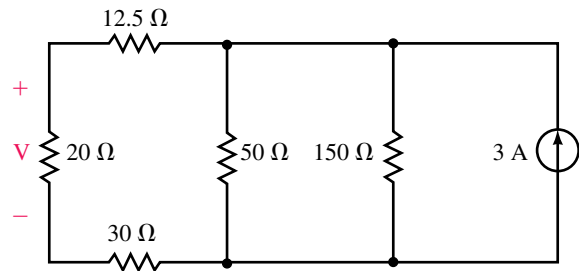

FIGURE 9–110
52. Repeat Problem 51 for the circuit of Figure 9–110.